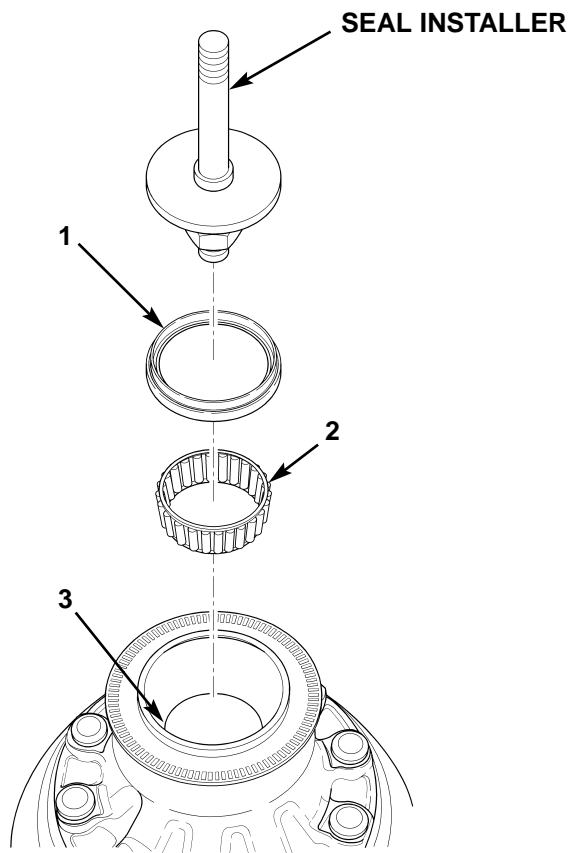

Figure 5. Installing Inner Bearing Cone and Seal.
5. Apply grease to inner bearing cone (figure 5, item 2) and set inner bearing cone (figure 5, item 2) on inner cup of front hub (figure 5, item 3).
6. Apply sealant to outside edge of new seal (figure 5, item 1) and position seal (figure 5, item 1) on front hub (figure 5, item 3) with tapered side of seal facing up.
7. Using seal installer, drive seal (figure 5, item 1) into shoulder bore of front hub (figure 5, item 3) until fully seated.